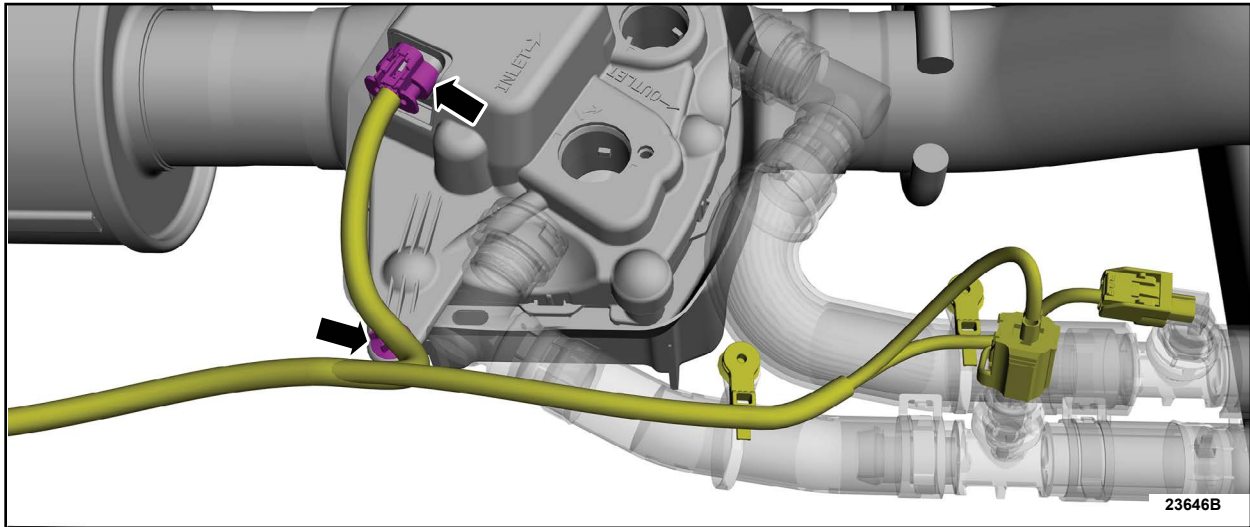

FIGURE 2
2. Disconnect the electrical connector and detach the wire retainer. See Figure 2.